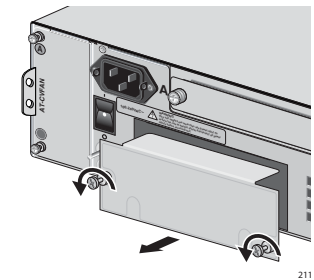

Figure 3. Removing the Power Supply Slot Cover
4. Loosen the two captive screws that secure the blank slot cover (AT-CV5PNL2) of the selected power supply slot, and remove the blank slot cover, as shown in Figure 3.